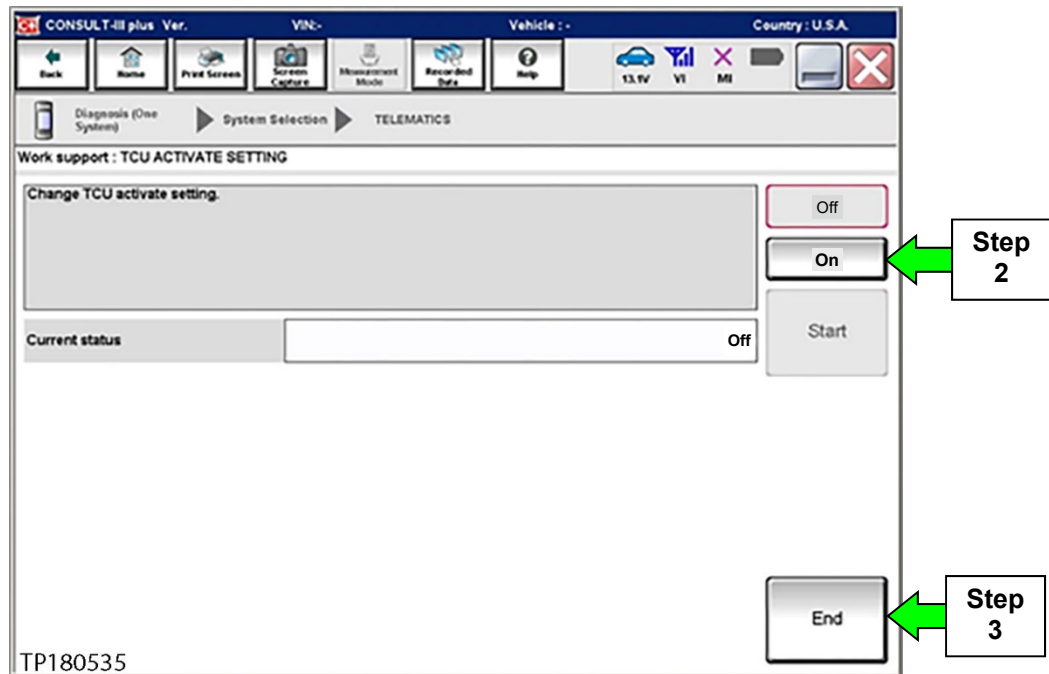

Figure 32
1. Get back to the Home screen, and then follow steps 9-13 starting on page 4 to get to Figure 32 below.